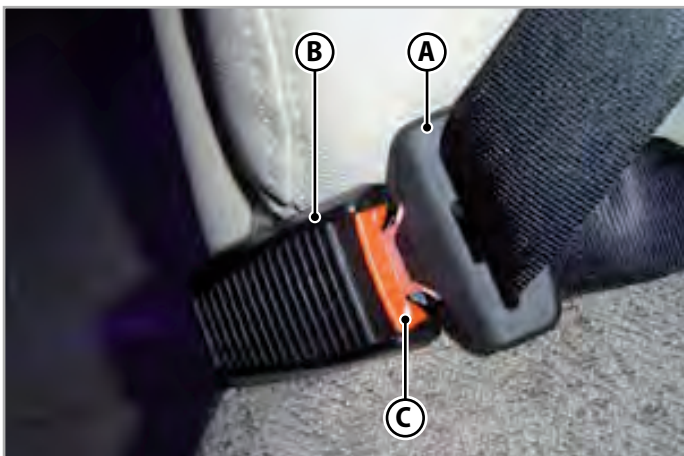

Fig.3.8 - Seat belt
- To fasten the seat belt, insert the tab (**A** - Fig.3.8) into the buckle (**B** - Fig.3.8).
- To release the seat belt, press the button (**C** - Fig.3.8).